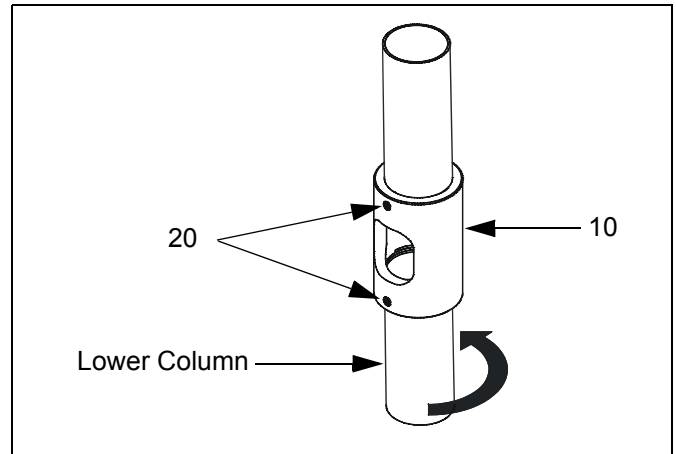

Figure 3: Install Lower Column
2. Screw lower 1-1/2" NPT threaded column into adapter (10) by hand (See Figure 3). Tighten lower column securely using pipe wrench, orienting cable management access to desired location.